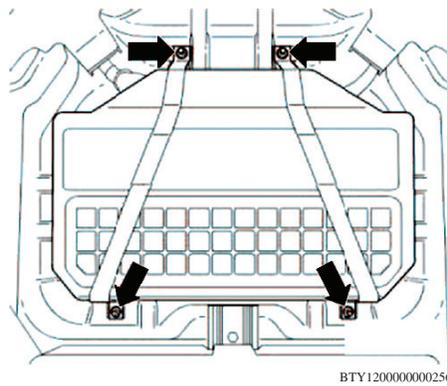

Fig. 6 Battery cover removal
6. Remove retaining strap nuts (arrows), **Fig. 6**.
6. Install battery cover and retaining straps. Tighten retaining strap nuts (arrows), **Fig. 6**.